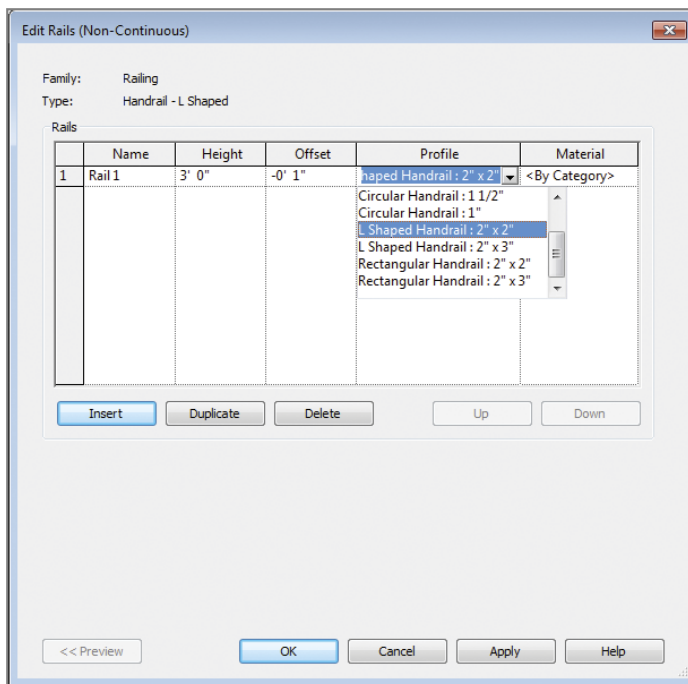

FIGURE 6.32 Editing the profile for the railing
7. In the Type Properties dialog box, select Edit from the Rail Structure (Non-Continuous) option. Doing so opens the Edit Rails (Non-Continuous) dialog box (Figure 6.32). Click in the Profile cell to activate the list drop-down, and select the L Shaped Handrail: 2" x 2" profile, as shown in Figure 6.32.